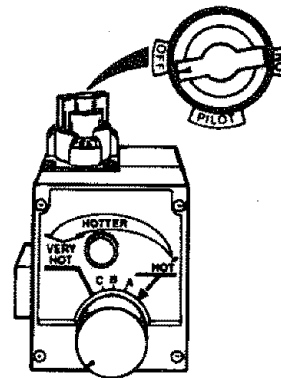
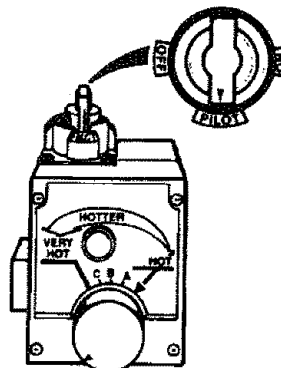
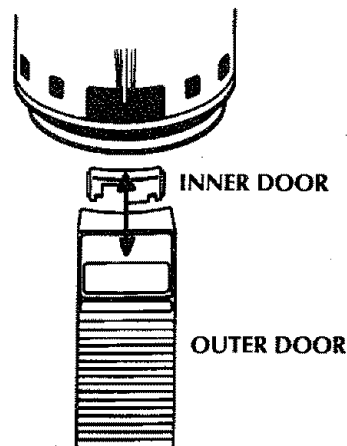

Figure 6
Figure 7
Figure 9
4. Turn gas control knob clockwise (↻) to "OFF" position. Knob cannot be turned from "PILOT" to "OFF" unless knob is depressed slightly. **DO NOT FORCE.** (Figure 6, page 15)
5. Wait five (5) minutes to clear out any gas. If you then smell gas, STOP! Follow "B" in the safety information above on this label. If you don't smell gas, go to the next step.
6. Remove (or open) inner door located below the gas control unit. (Figure 9, page 15)
8. If you don't smell gas, turn knob on gas control counter clockwise (↻) to "PILOT" position. (Figure 7, page 15).
9. Push in control knob all the way and hold down. Immediately light the pilot with a match. Continue to hold control knob in for about one (1) minute after the pilot is lit. Release knob and it will pop back up. Pilot should remain lit. If it goes out, repeat steps 4 through 9.
- If the pilot will not stay lit after several tries, depress and turn the gas control knob clockwise (↻) to "OFF" and call your service technician or gas supplier. (Figure 6, page 15)
10. Replace (or close) inner door. Replace outer door if door does not cover gas control on/off knob or temperature adjustment knob. (Figure 9, page 15)
2. Turn gas control knob clockwise (↻) to "OFF" position. Knob cannot be turned from "PILOT" to "OFF" unless knob is depressed slightly. **DO NOT FORCE.** (Figure 6, page 15)